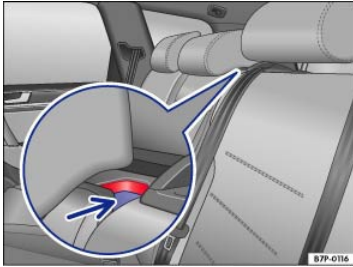

Fig. 100 In the rear backrest: Luggage compartment pass-through opening.
- Fold the middle part of the rear seat backrest (pass-through) back up (towards the rear) until it locks in to place. The red mark on the release button should no longer be visible ⇒ Fig. 100.